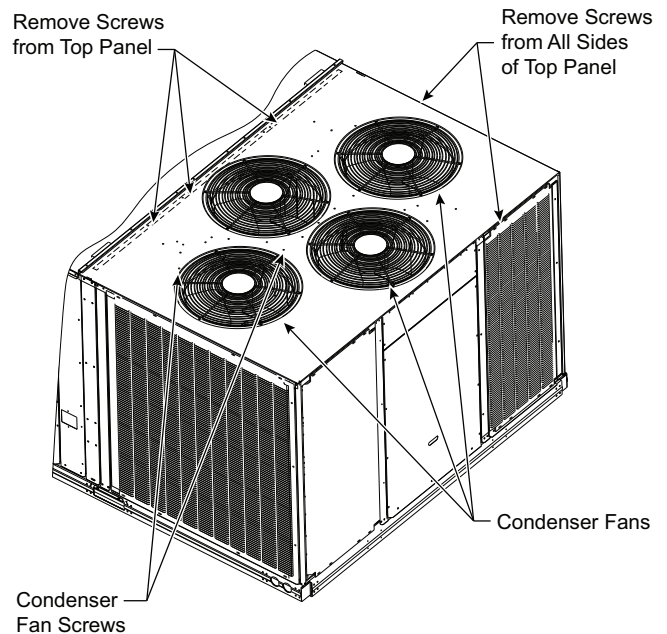

Fig. 19 — Location of Top Panel Screws and Coil Corner Post
2. Remove all screws from the top panel except the screws securing the condenser fan to the top panel. See Fig. 19.